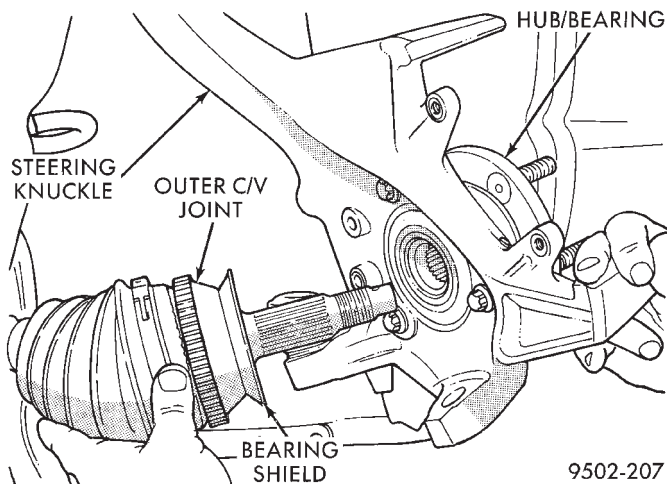

Fig. 49 Separating Steering Knuckle From Outer C/V Joint
(15) Separate the steering knuckle from the outer C/V joint. Separate steering knuckle from outer C/V joint, by supporting the driveshaft while pulling steering knuckle away from the outer C/V joint (Fig. 49).